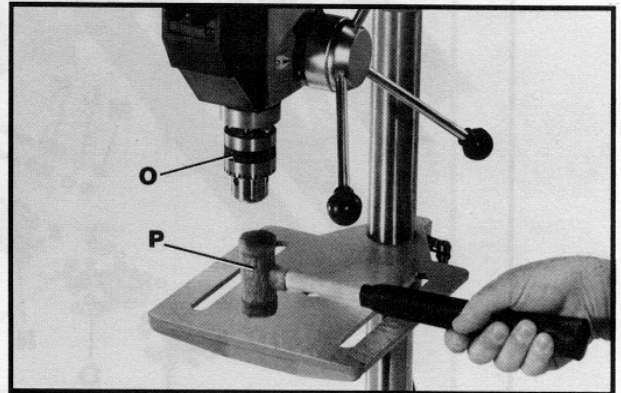

Fig. 10
10. Carefully drive chuck (O) Fig. 10, onto the spindle with a block of wood and hammer, or a mallet (P), as shown. This will seat the chuck properly on the spindle. **IMPORTANT:** To avoid damage to the chuck **NEVER** drive the chuck onto the spindle with a metal hammer.